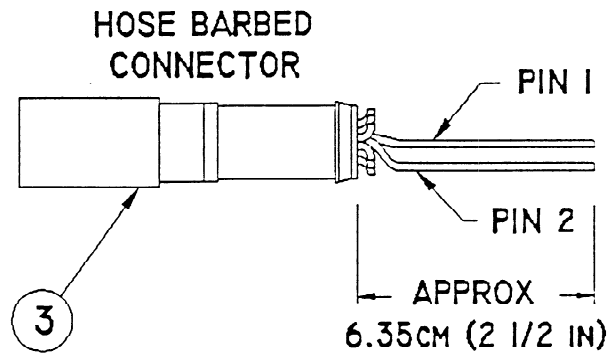

FIGURE 2
- Cut the leads on the hose-barbed connector (item 3). Cut the leads from pins 1 and 2 to 6.35 cm (2-1/2 inches) long. Cut all remaining leads, 3 to 8, to .63 cm (1/4 inch) long, and bend to outside of the connector housing, spaced around the diameter; see Figure 2.